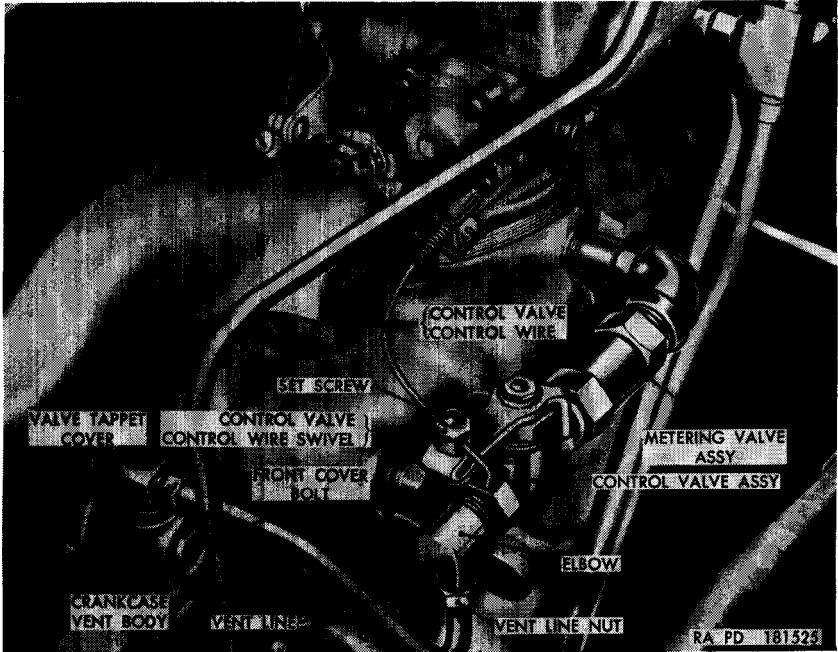

Figure 27. Crankcase control valve and vent metering valve assemblies—installed.
### a. Removal (fig. 27).
*b. Crankcase Control and Vent Metering Valve Assemblies (fig. 27).*
- (2) Unscrew the nuts at each end and remove the fuel and vacuum pump-to-intake manifold line (C).
- (3) Remove fuel and vacuum pump-to-tee line (D) by unscrewing nut at each end of the line.
- (4) Loosen the set screw securing the crankcase control valve control wire (N) to the crankcase control valve control wire swivel (F) and pull the control wire out of the swivel.
- (5) Remove the vent line (M) between the crankcase control valve assembly (G) and the crankcase vent body (fig. 27) by unscrewing nut at each end of the line.
- (6) Remove the crankcase control valve and vent metering valve assemblies (G and E) by unscrewing the pipe nipple from the intake manifold.
- (7) Remove the nut from the bolt (K), and nut (L) from the stud, connecting the exhaust pipe to the exhaust manifold.
- (8) Remove the four nuts (B) one at the front of the intake manifold; one at the rear of the intake manifold; and two, with flat washers, at the center securing the intake and exhaust manifold assembly to the cylinder block. Remove the three nuts (A) securing the exhaust manifold to cylinder block.
- (9) Slide the intake and exhaust manifold assembly away from the block and off the studs and lift out of the vehicle.
- (10) Remove the four lockwasher screws (J) attaching the intake and exhaust manifolds (Q and R). Remove heat control valve spring stop (H). Remove gasket between the intake and exhaust manifolds and clean the contacting surfaces. Also clean the gasket contacting surfaces on cylinder block and intake and exhaust manifold assembly.
- (4) Insert a new exhaust pipe flange gasket between the pipe flange and the exhaust manifold flange. Lift the exhaust pipe up and over the stud in the exhaust manifold flange and screw  $\frac{3}{8}$ -inch nut (L) onto the stud part way. Insert  $\frac{3}{8} \times 1\frac{1}{2}$  bolt (K) through the exhaust manifold flange, gasket, and pipe flange and screw on  $\frac{3}{8}$ -inch nut. Tighten nut (L) and the nut on the bolt (K) with equal tension to secure exhaust pipe to the manifold assembly.
- (5) Install the crankcase control valve and vent metering valve assemblies (G and E) on intake manifold by screwing the pipe nipple into the manifold to the position shown.
- (6) Insert the crankcase control valve control wire (N) through the crankcase control valve control wire swivel (F) and tighten the set screw securing wire to swivel. Position the vent line (M) between the crankcase control valve and the crankcase vent body (fig. 27). Screw nut into the fitting at both ends of the line and tighten.
- (7) Position fuel and vacuum pump-to-tee line (D) between the fuel and vacuum pump and the tee and tighten the two nuts.
- (8) Position fuel and vacuum pump-to-intake manifold line (C) between the fuel and vacuum pump and the intake manifold and tighten the two nuts.
- (9) Install carburetor (par. 129c).